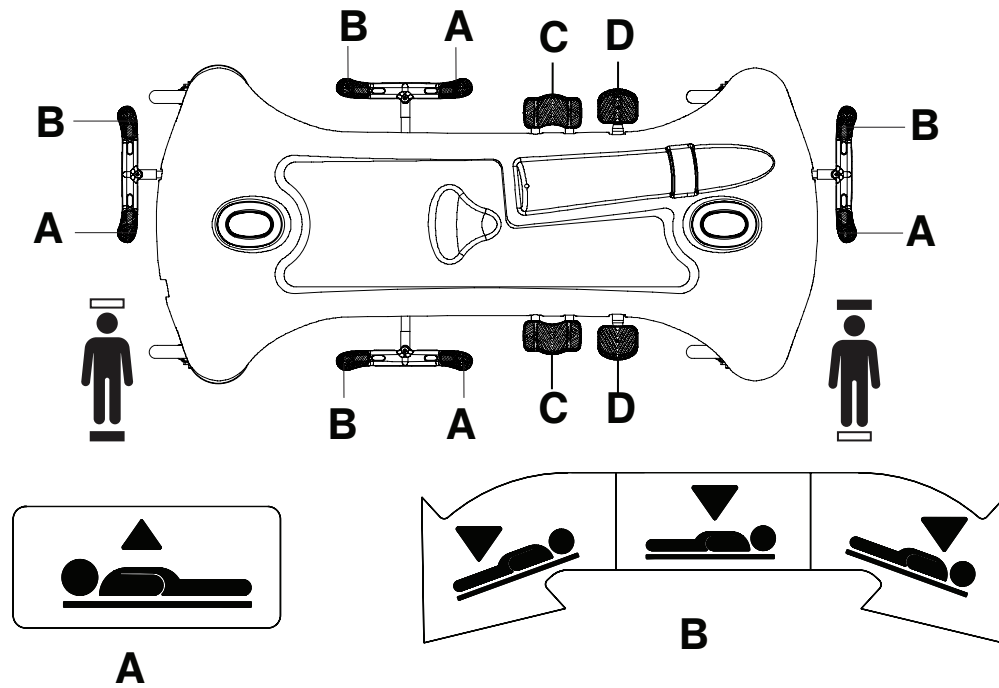

Figure 3 – Raising or lowering the litter
To raise the litter, pump the pump pedal (D) until you achieve the desired height (Figure 3).
To position the product in the Trendelenburg position (head down), raise the litter to the highest height (Figure 3).
To position the product in the Reverse Trendelenburg position (foot down), raise the litter to the highest height (Figure 3)